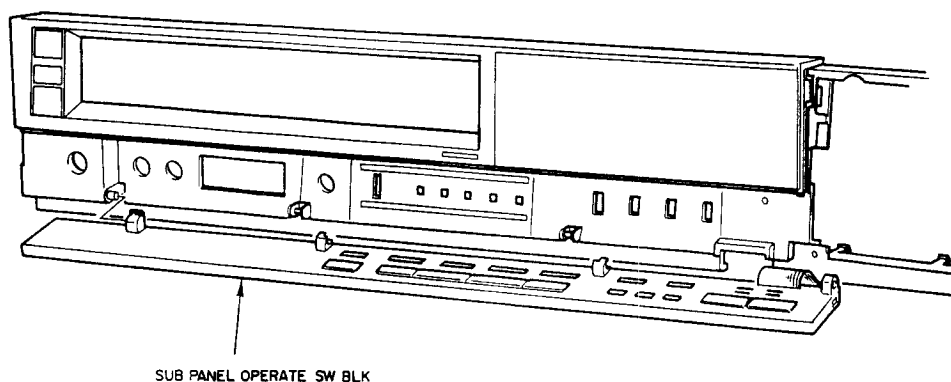

Fig. 4-5
- 6) Unfasten the two stoppers carefully, then remove the SUB PANEL OPERATE SW BLOCK as shown in Fig. 4-5.